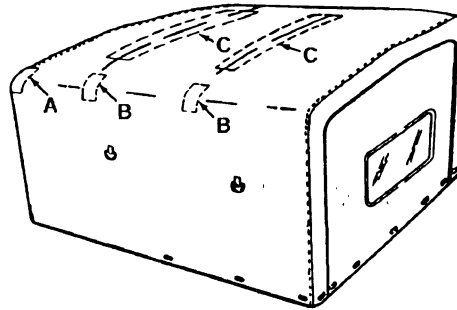

FIGURE 8-2
- E. The top front corners of the soft top enclosure should be reinforced with strap A.(see figure 8-2)
- F. The enclosure should be reinforced with strap B where the corners of the second and third bows come into contact with the enclosure. (see figure 8-2)
- G. The securing straps C, should be sewn into the soft top where the second and third bows make contact with the soft top enclosure. (see figure 8-2) When the enclosure is installed on the vehicle, the straps should be fastened around the bows with turn buttons. The securing straps will serve to reinforce the enclosure and reduce the "ballooning" action of the enclosure which will reduce wear- between the enclosure and the bows.